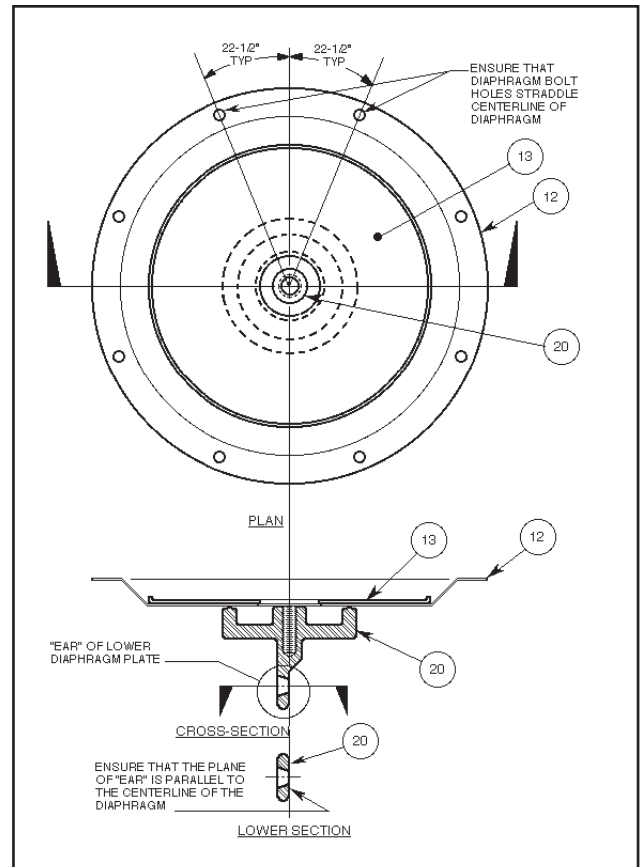

Figure 3
10. While holding upper diaphragm plate (13) by palm of hand, hand-pull diaphragm (12) away from upper diaphragm plate (13). **NOTE:** The diaphragm (12) is adhered to the upper diaphragm plate (13) with adhesive. Rotate and repeat until the diaphragm (12) is fully removed. Discard used diaphragm (12). Remove remaining adhesive from upper diaphragm plate (13).
11. Examine upper plate (13) for bending or distortion. Replace if deformation is present.
12. Spread a thin layer of compatible adhesive (DuPont 732 or equal) onto the cleaned upper pressure plate (13), staying away from the edges approximately 1/2" (12 mm). Place a new diaphragm (12) down onto a flat surface with the diaphragm's (12) flange edges up, forming a "bowl" with a hole in the center. Carefully lift the upper diaphragm plate (13), invert 180°, and lower into the diaphragm (12) "bowl" with the adhesive meeting the diaphragm (12); align the upper diaphragm plate (13) as concentrically as able. Carefully lift the adhered parts (12)(13) and invert 180°. Align the diaphragm (12) hole and upper diaphragm plate (13) hole concentrically. Work out any "bubbles" formed between the diaphragm (12) and the upper diaphragm plate (13) using a flat tool as necessary. Once aligned, set adhered parts (12)(13) back down to allow adhesive approximately 30 minutes setting/drying time.
13. Place the adhered diaphragm (12) and the upper diaphragm plate (13) back onto the lower diaphragm plate (20) still resting in the vise. Position/align the diaphragm (12) with respect to the lower diaphragm plate (20) as indicated in Figure 3; failure to align properly may cause poor unit performance.
14. Set nylon bushing (15) into hole in the top of the upper diaphragm plate (13). Place washer (16) on top of nylon bushing (15).
15. Insert stop post (19) through the center opening of stacked parts (16, 15, 13, 12) and engage threaded end of stop post (19) into lower diaphragm plate (20). Carefully tighten stop post (19) to ensure concentricity of stacked parts (16, 15, 13, 12). Tighten stop post (19) to 18–20 in-# (2.0–2.3 N-M) torque. This completes diaphragm sub-assembly (DSA); remove from vise.